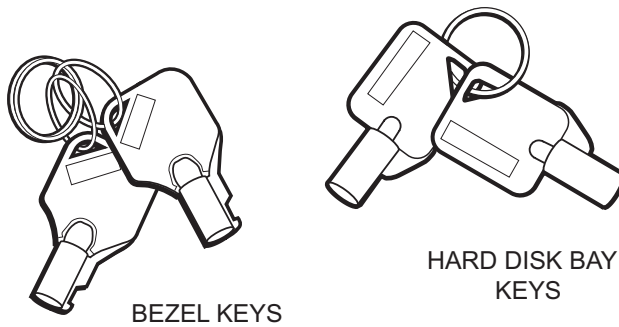
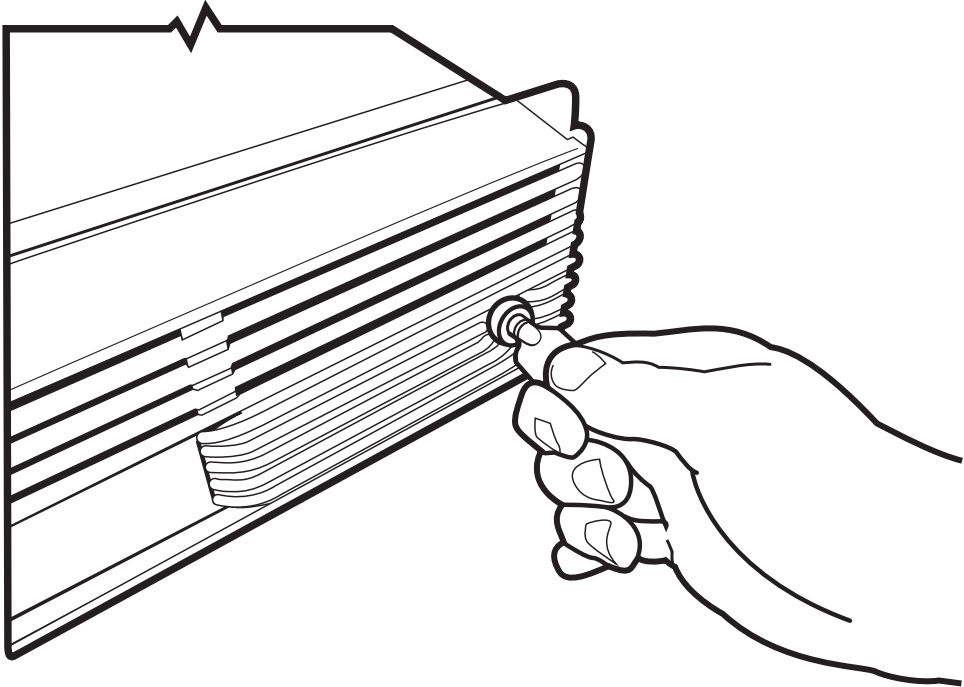
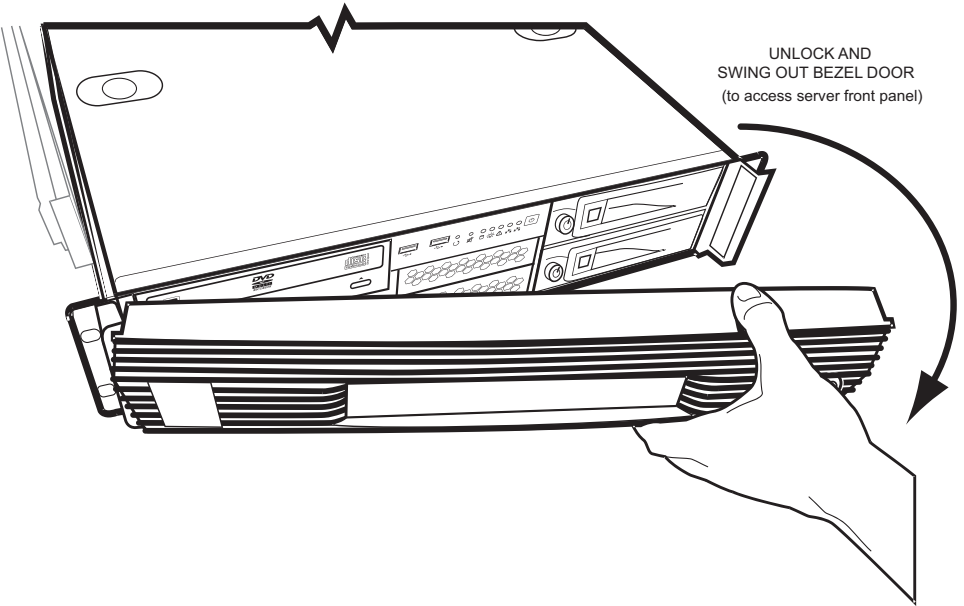

Figure 2.10 Bezel and Hard Disk Keys
Figure 2.12 Unlocking the Front Bezel of the TMP6400-CTRL
Figure 2.13 Opening the Front Bezel to Access the Hard Disks of the TMP6400-CTRL
1. Using the bezel key, unlock and remove the TMP6400-CTRL front bezel. See figure 2.10 on page 18, figure 2.12 on page 19, and figure 2.13 on page 19.